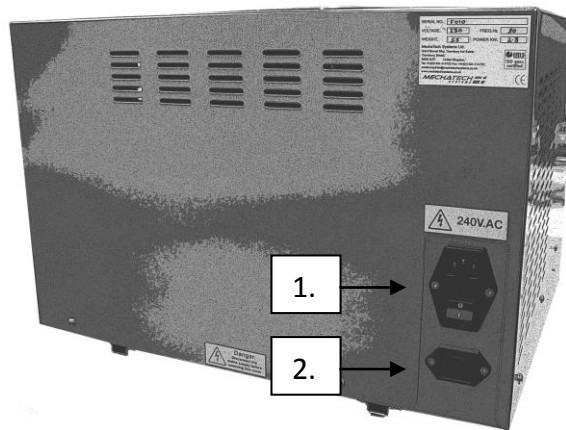
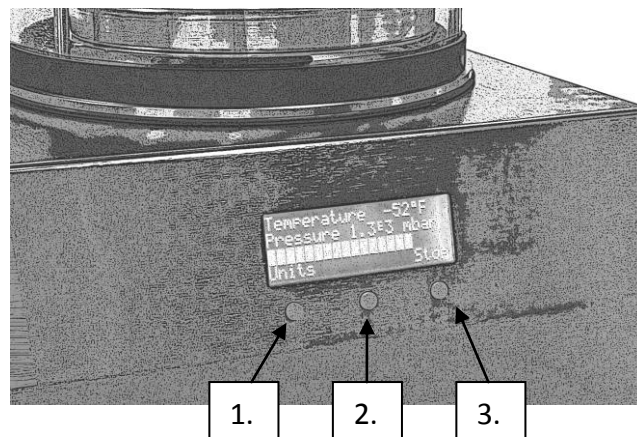

Figure 2 – LyoDry Compact Rear connections.
Figure 3 – LyoDry Compact Control Panel.
2. Ensure that the main switch (item 1, figure 2) is on the '0' (off) position.
5. The LyoDry Compact is supplied with a 1.5 metre length of 3-core electrical supply cable. Connect the cable to the vacuum pump and the LyoDry Compact pump power outlet on the rear of the LyoDry Compact (item 2, figure 2).
1. Switch on the electrical supply and then turn the main switch (Figure 2) to the '1' (on) position.
2. Switch the pump on by pressing the 'Pump' button (item 2, Figure 3) if the pump is electrically connected to the LyoDry Compact vacuum pump power outlet (Figure 2). 'READY – PUMP ON' is displayed.
2. Switch the vacuum pump off by pressing the 'Pump' button (item 2, Figure 3) if the pump is electrically connected to the LyoDry Compact vacuum pump power outlet (Figure 2).
5. Switch the refrigeration off by pressing the 'Stop' button (item 3, Figure 3).